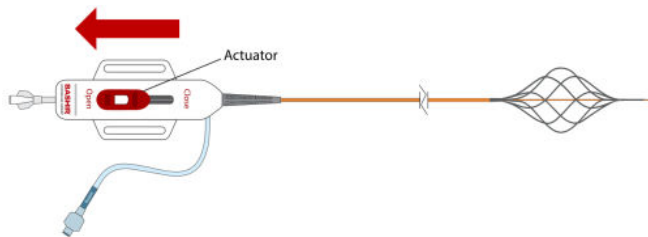

Figure 3. Move actuator in the proximal direction to expand the infusion basket to the desired diameter (diagram not to scale).
- Before placement, verify that the diameter of the infusion basket can be adjusted using the actuator on the handle. Moving the actuator in the proximal direction (towards the operator), increases the infusion basket diameter (Figure 3, Page 5). Moving the actuator in the distal direction (away from the operator), while simultaneously pressing the actuator release button, reduces the infusion basket diameter (Figure 4, Page 5).
7. Verify that the diameter of the infusion basket can be adjusted using the red actuator on the handle. Moving the actuator in the proximal direction (towards the operator) increases the infusion basket diameter (Figure 3, Page 5). Moving the actuator in the distal direction (away from the operator), while simultaneously pressing the actuator release button, reduces the infusion basket diameter (Figure 4, Page 5).
16. Under fluoroscopic visualization, use the red actuator on the handle to expand the infusion basket to a diameter less than that of the vessel in which it is situated, to minimize the chance of occluding any infusion holes. Moving the actuator in the proximal direction (towards the operator) expands the infusion basket (Figure 3, Page 5). To collapse the basket, move the actuator in the distal direction (away from the operator) while simultaneously pressing the white actuator release button (Figure 4, Page 5).